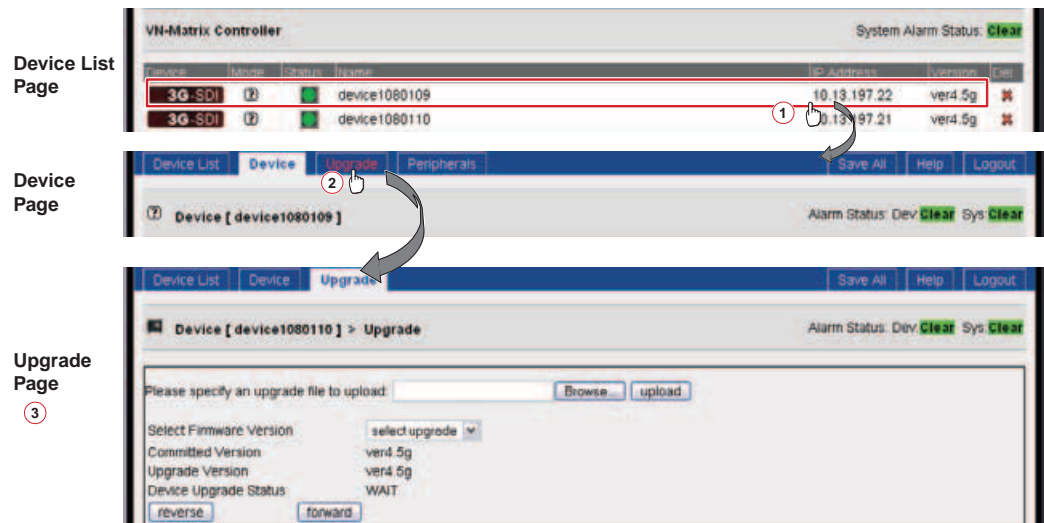

Figure 43. Upgrade Page
- On the device list page, click anywhere on the row (except the Delete column) for the controlling VNC 325 to select that codec to receive the firmware upload (① on figure 43).